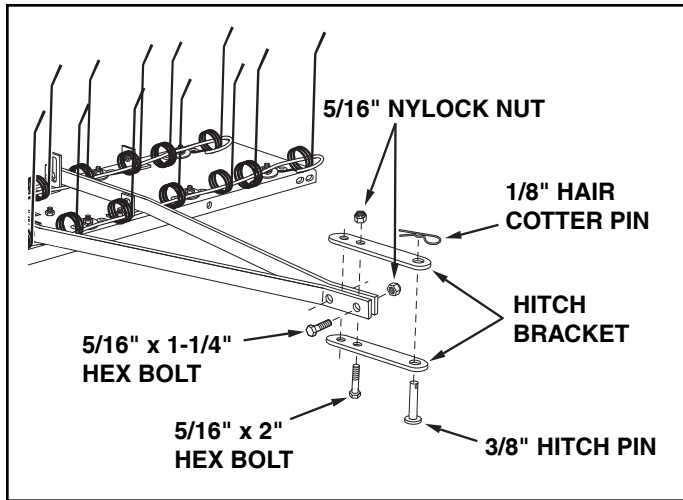

FIGURE 3
- Assemble the front ends of the hitch mount arms together using two 5/16" x 1-1/4" hex bolts and 5/16" nylock nuts. **Do not tighten yet.** See figure 3.
- Assemble the hitch brackets to the top and bottom of the hitch mount arms using two 5/16" x 2" hex bolts and 5/16" nylock nuts. **Do not tighten yet.** See figure 3.
- Assemble the 3/8" hitch pin through the hitch brackets and secure it with a 1/8" hair cotter pin. See figure 3.
- **Tighten** the bolts and nuts assembled in figure 3.